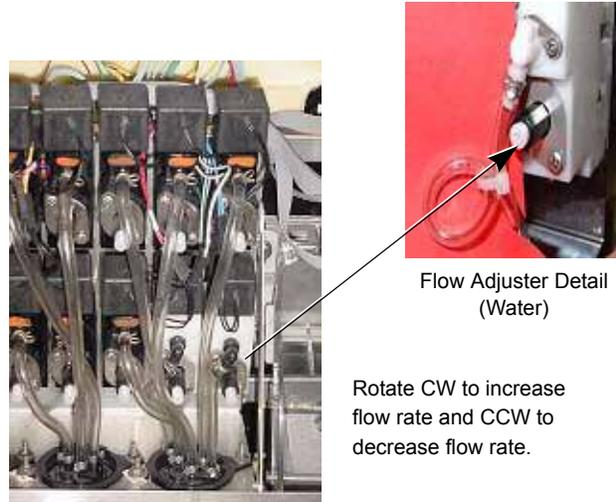

Figure 3. Valve with Flow Adjusters
3. DRIP TRAY DRAIN ASSEMBLY (see Figure 3): Route the drain tube to an open drain with the end of the tube above the “flood” level of the drain. Use the tubing, fittings, clamps, and insulation provided with the Dispenser to assemble the drain. The completed drain line *must* pitch continuously downward and contain no “traps” or improper drainage will result.
3. Place an empty ratio cup under the appropriate nozzle and press the left program button to dispense 4 sec. of carbonated water. The target is 10 ounces to be dispensed. If necessary, adjust the water valve flow control (see Figure 3), empty ratio cup, and repeat until 10 ounces is dispensed.